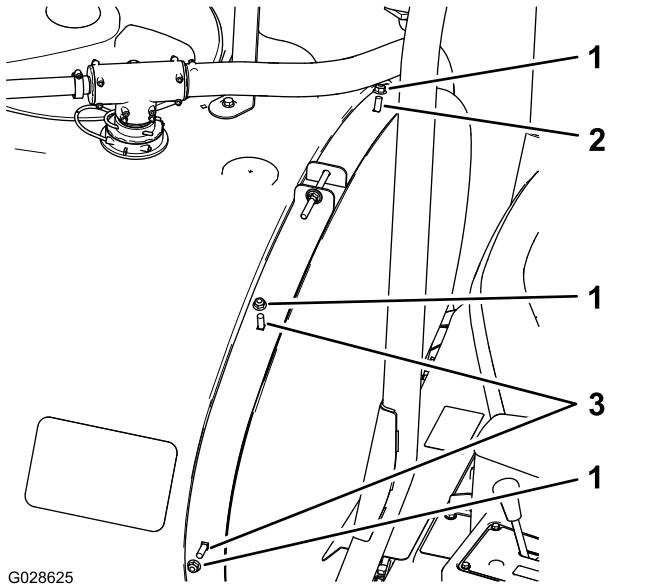

Figure 6
3. Install a carriage bolt (3/8 x 1 inch) in the upper-inboard holes of the left, front tank strap (Figure 6).
4. Install 1 carriage bolt (3/8 x 1-1/4 inch) in the upper-inboard holes of the right, front tank strap (Figure 6).
5. Install 1 carriage bolts (3/8 x 1-1/4 inch) in the lower-outboard holes of the right, front tank strap (Figure 6).